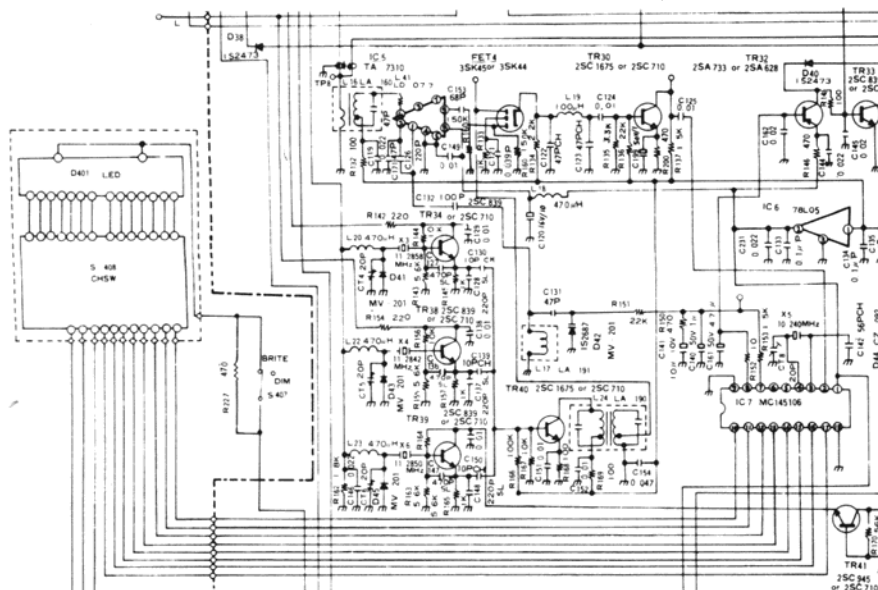

Fig. 12 — Schematic Diagram, Palomar SSB 500 (MC/145106 PLL)
7. Connect the shields from Coax #1 and Coax #2 to ground (see Fig. 12).